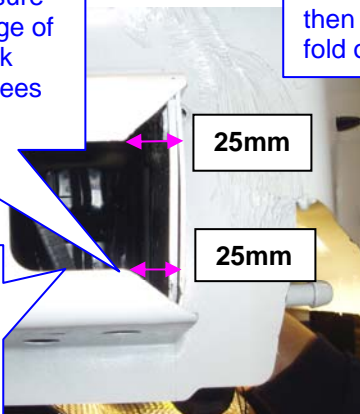

Fig 8
4. Cut rear panel & impact beam as per figs A on page 2 & fig 8 on page 4 then coat with anti rust paint.
- Mark out rear panels as shown in figures 8 & 9 then cut section of panel out with tin snips or small hacksaw.
- Fit loose arm inside the drivers chassis rail see fig 8 then feed M10 bolt on wire up the chassis rail to align with M11 hole drilled in step 14a see fig 10.